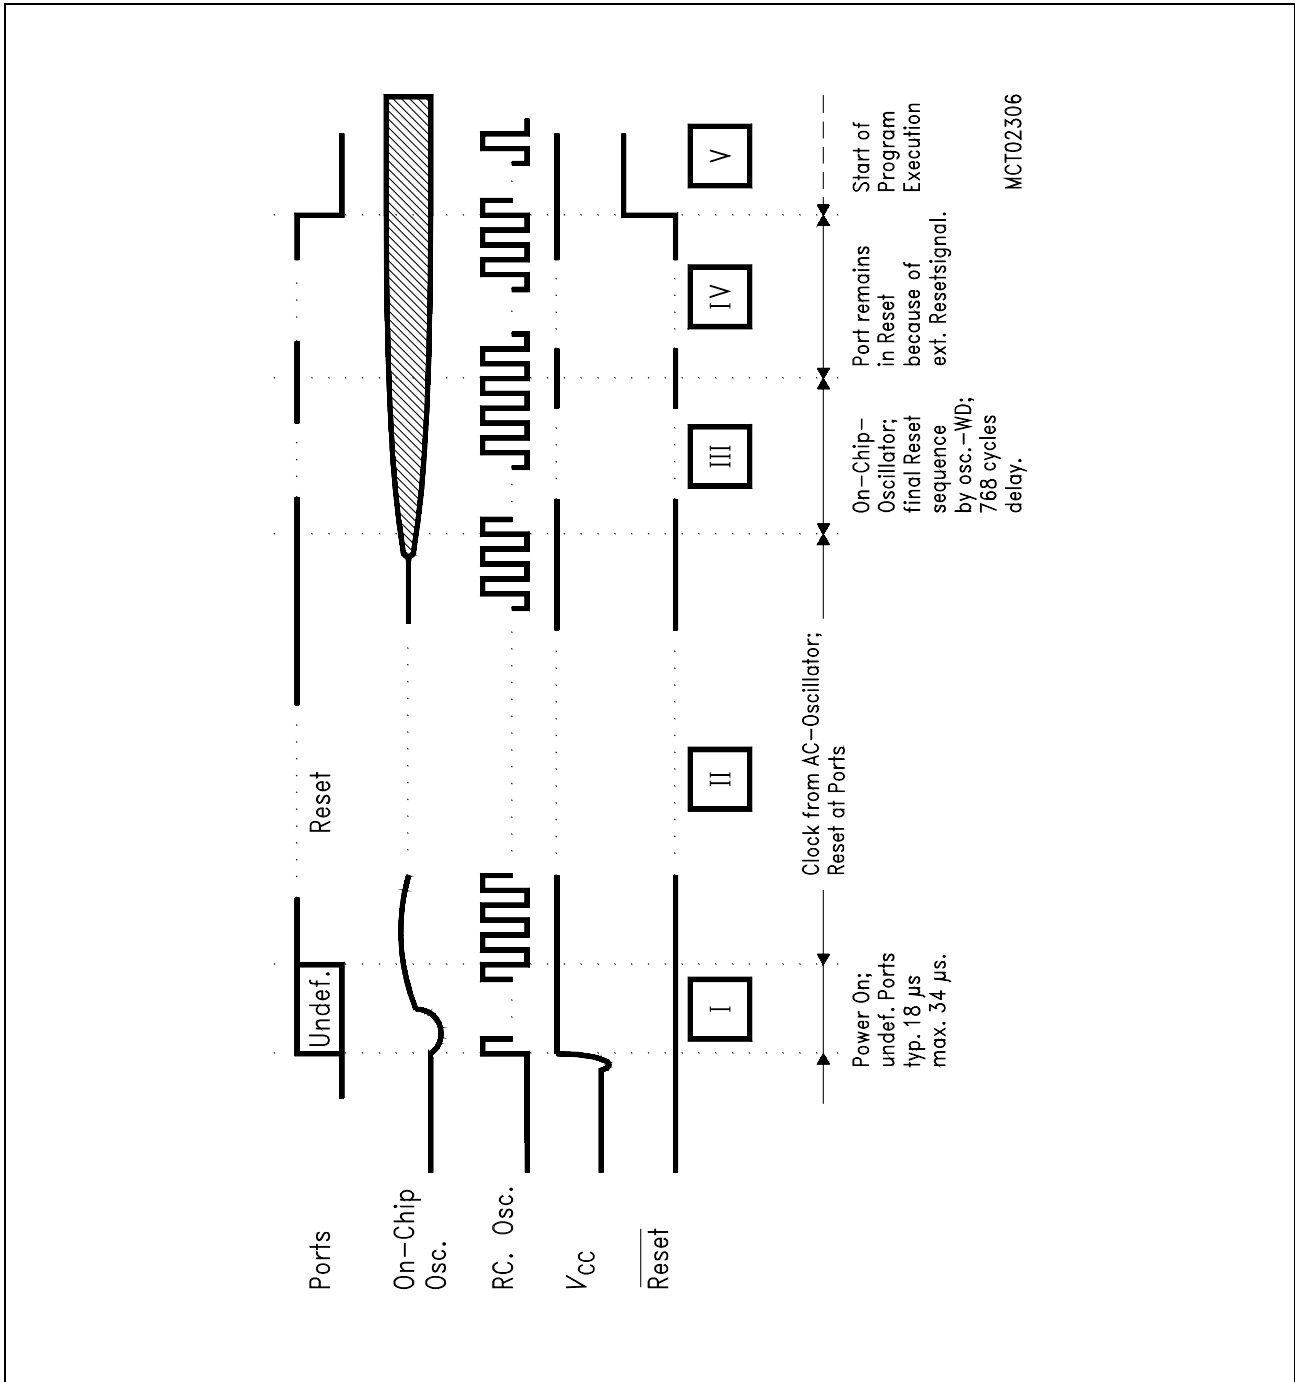

Figure 4-4
**Figure 4-4** shows the power-on sequence under control of the oscillator watchdog.
In the SAB 80C515A the oscillator watchdog unit can avoid this situation. In this case, after power-on the oscillator watchdog's RC oscillator starts working within a very short start-up time (typ. less than 2 microseconds). In the following the watchdog circuitry detects a failure condition for the on-chip oscillator because this has not yet started (a failure is always recognized if the watchdog's RC oscillator runs faster than the on-chip oscillator). As long as this condition is detected the watchdog uses the RC oscillator output as clock source for the chip rather than the on-chip oscillator's output. This allows correct resetting of the part and brings also all ports to the defined state (see **figure 4-4**). The time period from power-on until reaching the reset state at the ports derives from the following terms:
After the on-chip oscillator finally has started, the oscillator watchdog detects the correct function; then the watchdog still holds the reset active for a time period of 768 cycles of the RC oscillator in order to allow the oscillation of the on-chip oscillator to stabilize (**figure 4-4**, II). Subsequently the clock is supplied by the on-chip oscillator and the oscillator watchdog's reset request is released (**figure 4-4**, III). However, an externally applied reset still remains active (**figure 4-4**, IV) and the device does not start program execution (**figure 4-4**, V) before the external reset is also released.